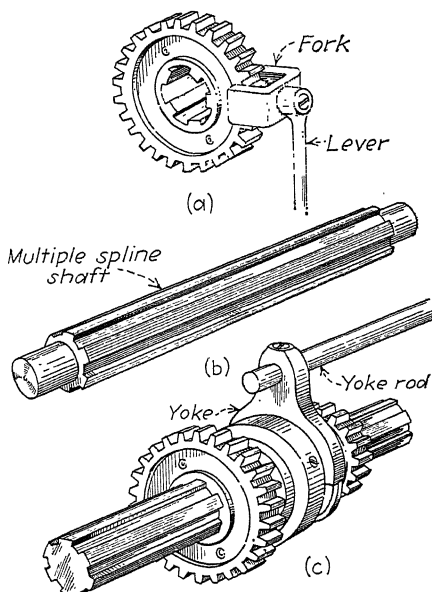

FIG. 25.—(a) Multiple spline gear and fork for moving gear. (b) Multiple spline shaft sometimes called integral key shaft. (c) Yoke for moving gear.
**36. Sliding Gears.**—To obtain a number of speeds of a driven shaft, or of a spindle of a modern machine tool, a construction known as *sliding gears* is much used. Suitable levers are arranged to operate a fork as in *a*, Fig. 25, or a yoke as in *c*, to slide the cluster1 of gears to the position desired.
the heavier, faster machines, the heat-treated alloy-steel gears that are now used must have more than one key, and the shaft with the *multiple spline*, sometimes called *integral key*, is commonly used (see *b*, Fig. 25).